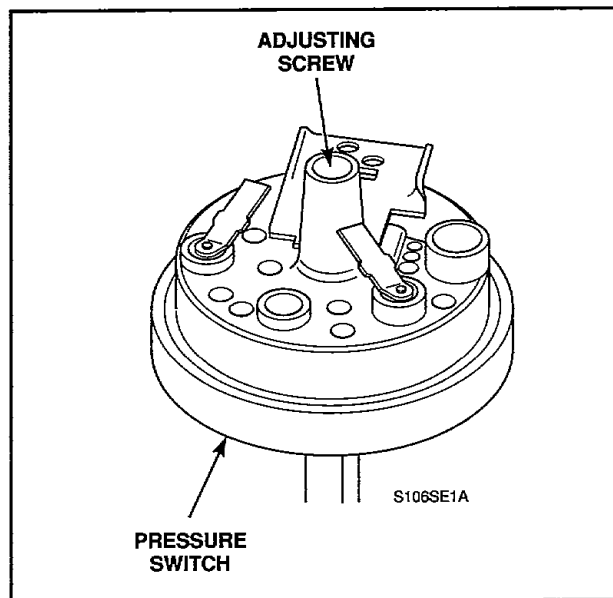

Figure 50
- h. Remove sealer from around pressure switch adjusting screw, *Figure 50*.
- i. Turn adjusting screw, *Figure 50*, **clockwise** to increase water level in clothes cylinder, or **counterclockwise** to decrease water level.